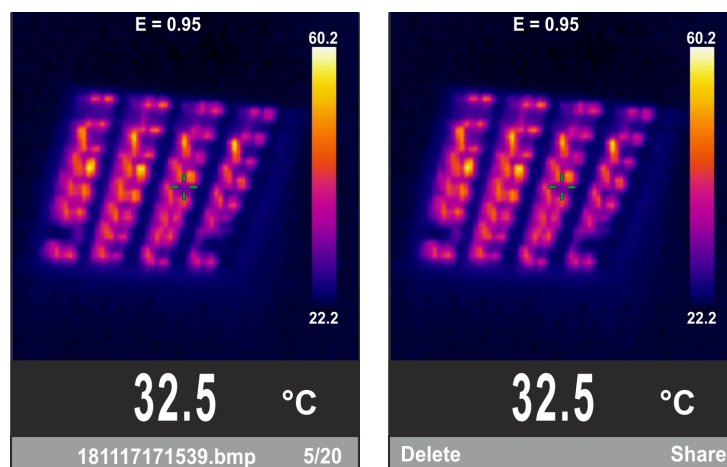

Fig. 7: Recalling, deleting and sharing the image on the display
14. Use the keys **▲** or **▼** and key **OK** to select option "Recall photo". The screen in Fig.7 – left side (corresponding to the last saved image) is shown on the display:
16. To delete the image, press the trigger key **T** on the recalled image. The screen in Fig.7 – right side appears on the display. Press key **T** again to exit the function.